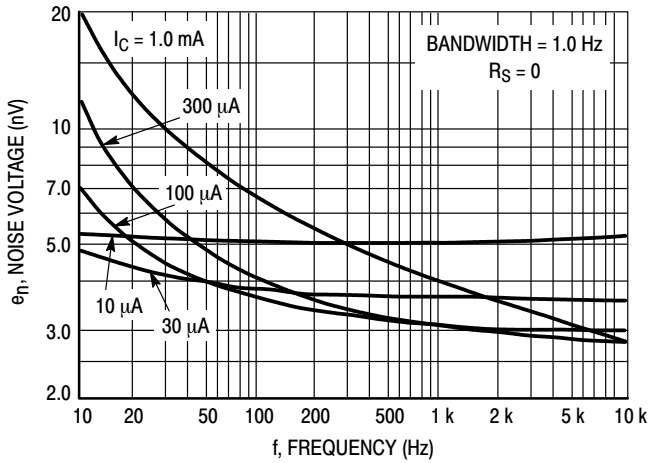

Figure 3. Noise Voltage
- e_n = Noise Voltage of the Transistor referred to the input. (Figure 3)